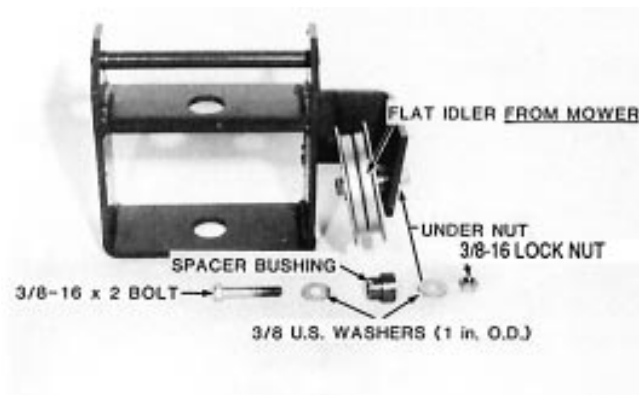

Figure 8
6. Slide a 3/8" washer, flat idler pulley, and a spacer bushing (with the smaller end toward the pulley) onto a 3/8"–16 x 2" bolt (Fig. 8).
7. Slide the bolt into the slot nearest the edge of the bracket on the hitch frame and secure it with a 3/8" washer and 3/8"–16 locknut (Fig. 8).